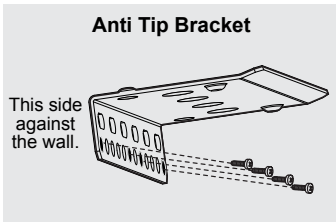

Figure 3
8. Hold the bracket where the wall is marked for the stud and mark the 2 corner holes and any 2 center holes of the bracket on the wall. Be sure a center hole location is aligned with the vertical stud line made in step 4 (see Figure 3).